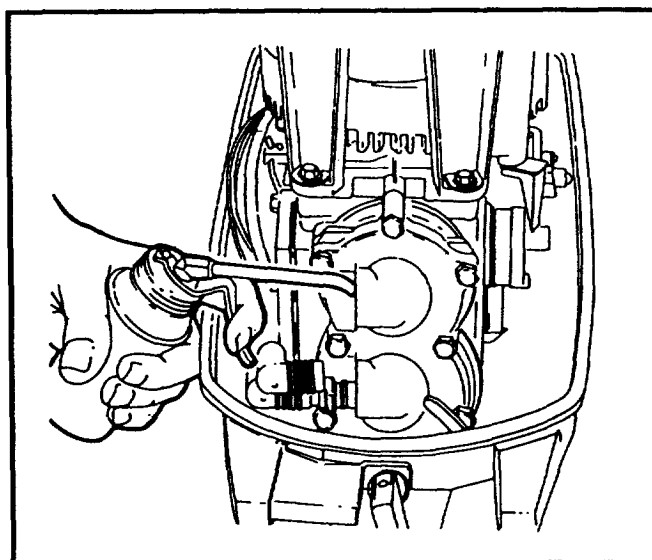

FIGURE 42
- Remove spark plug and put an ounce or two of outboard oil into spark plug hole (Figure 42).